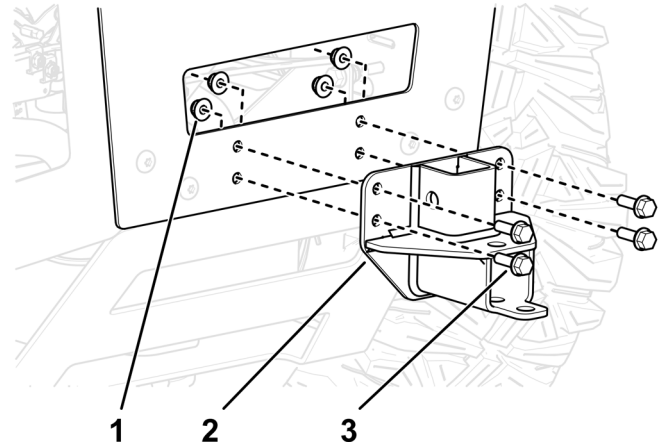

Figure 7
4. Install the bagger mount bracket to the machine as shown in Figure 7.